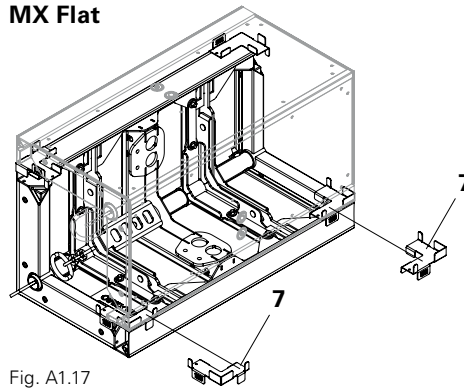

Fig. A1.17
- two shaft corners. Install Stacking Aids (7) on the corners at the top and bottom. (Fig. A1.17)